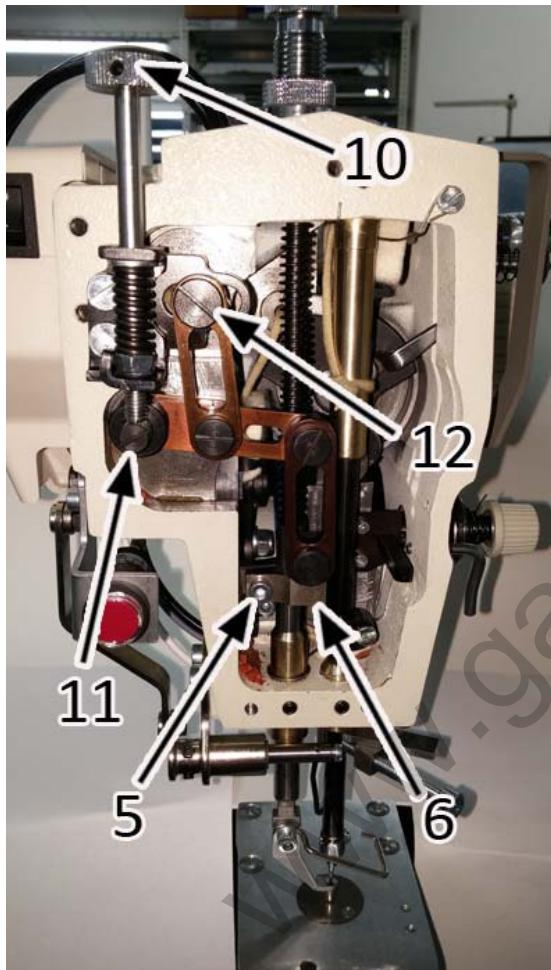
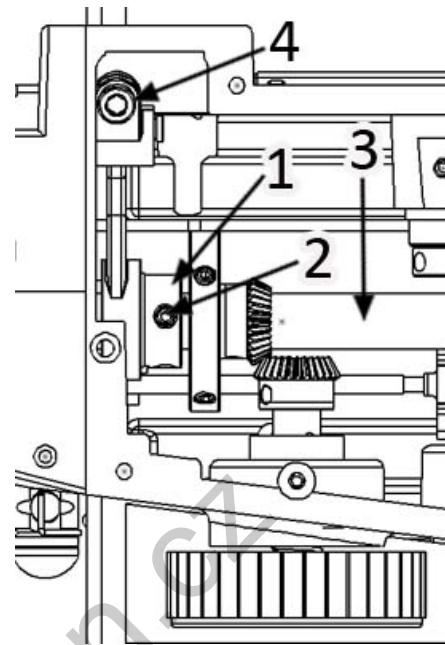
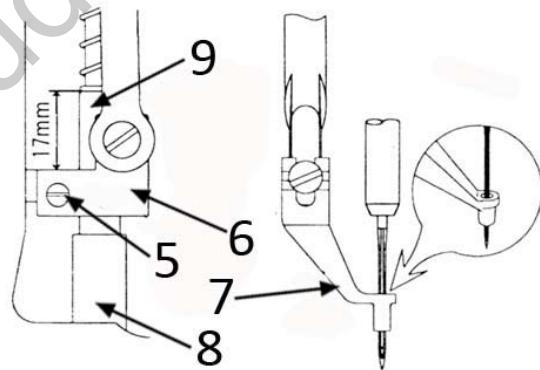

Fig. 25
Fig. 26
Fig. 27
- A. Set the needle bar to the lower reversal point by turning hand wheel. Loosen screws (2) of the eccentric (1) and set this eccentric to the position where the screw (2) is in upper position. The eccentric (1) is placed on the main shaft (3), Fig. 26.
- B. Set the position of the driver (6) in value 17mm from the edge of presser bar (9). At tightening the screw (5) check the position of the needle in the middle of sub presser foot (7), Fig. 25, 27.
C. Loosen safety screw (4), Fig. 26 and set the screw (12) to the end right position in round slot of the lever, Fig. 25.
D. Set the screw (11) so that there is touch with stopper of hand screw (10), Fig. 25.
E. Set the play between driver of presser bar (6) and bushing of presser bar (8) in value 9mm, Fig. 27. After that tighten the screw (4), Fig. 26.
G. Set needed height of the stroke of sub presser foot (7). This is done by moving of the screw (12) in round slot of the lever, Fig. 25.
H. The height of presser foot (7) is set in comparison with thickness of the material by hand screw (10).